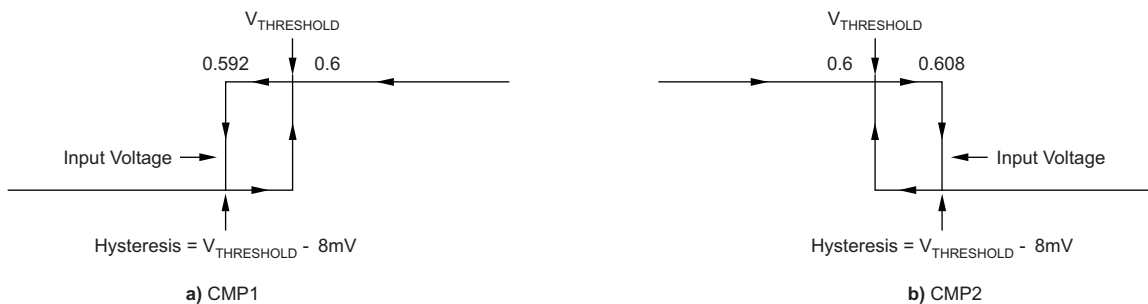

Figure 1. Comparator Hysteresis
(1) Hysteresis refers to the threshold (the threshold specification applies to a rising edge of a noninverting input) of a falling edge on the noninverting input of the comparator. See Figure 1.
(2) Specified by design.
(3) The comparator response time specified is the interval between the input step function and the instant when the output crosses 1.4 V.
(4) RESET input has an internal 2 M Ω (typical) pull-down. Leaving RESET open results in a LOW state, with transparent comparator operation.